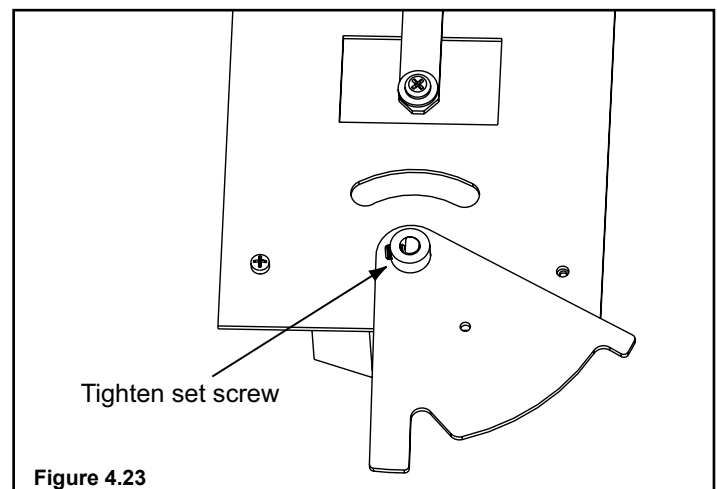

Figure 4.23
3. Place linkage control arm over timer shaft and tighten set screw. Figure 4.23.
4. Rotate linkage control arm into final position and re-attach to mounting plate. Note that the D cut is now facing the linkage timer arm. Re-attach the linkage timer arm. Figure 4.23.